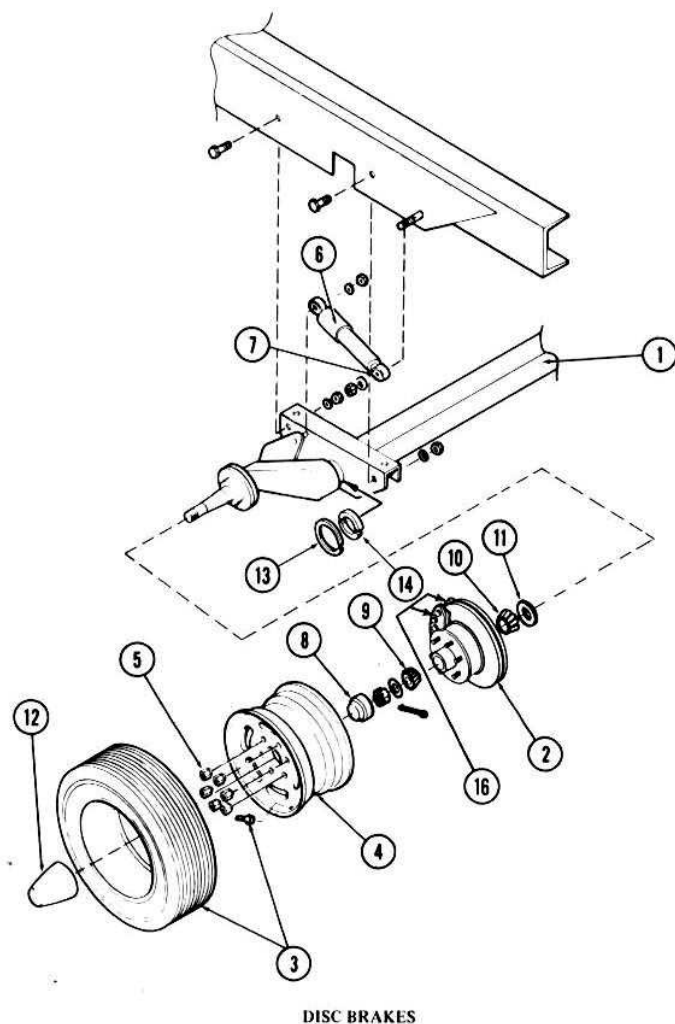

Fig. 9
6. Remove four (4) brake assembly bolts, brake lining, backing plate and two (2) spacers.
10. Remove hub and rotor assembly from spindle. (Fig. 9)